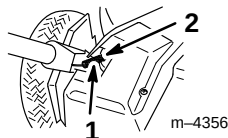

Figure 3
5. Install the traction cable spring onto the transmission bracket if it is not already connected (Fig. 3).